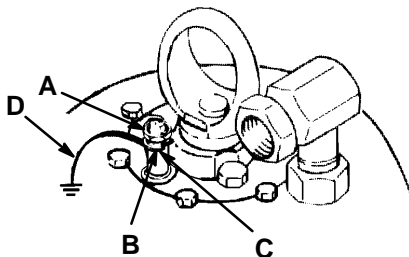

Fig 1
To ground the pump, loosen the grounding lug locknut (A) and washer (B). Insert one end of a 1.5 mm2 (12 ga) minimum ground wire (D) into the slot in lug (C) and tighten the locknut securely. See Fig 1. Connect the other end of the wire to a true earth ground. See **ACCESSORIES** on page 22 to order a ground wire and clamp.
1. *Pump*: use a ground wire and clamp. See Fig 1.
The reference numbers and letters in parentheses in the text correspond to the callouts in Figures 1–7 and the Parts Drawing.